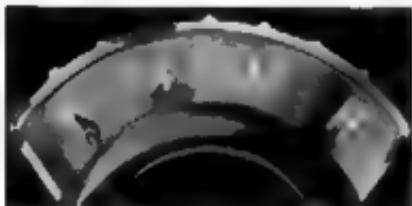

Fig. 25—Hydra-Matic Indicator—
The shift lever located just below the steering wheel can be moved to select neutral, one of three forward speed ranges, or reverse. These positions, which are plainly marked on the indicator segment (fig 25), are utilized as follows:
1. Place Hydra-Matic control lever in "N" (fig. 25). Starter will not operate with lever in any other position.